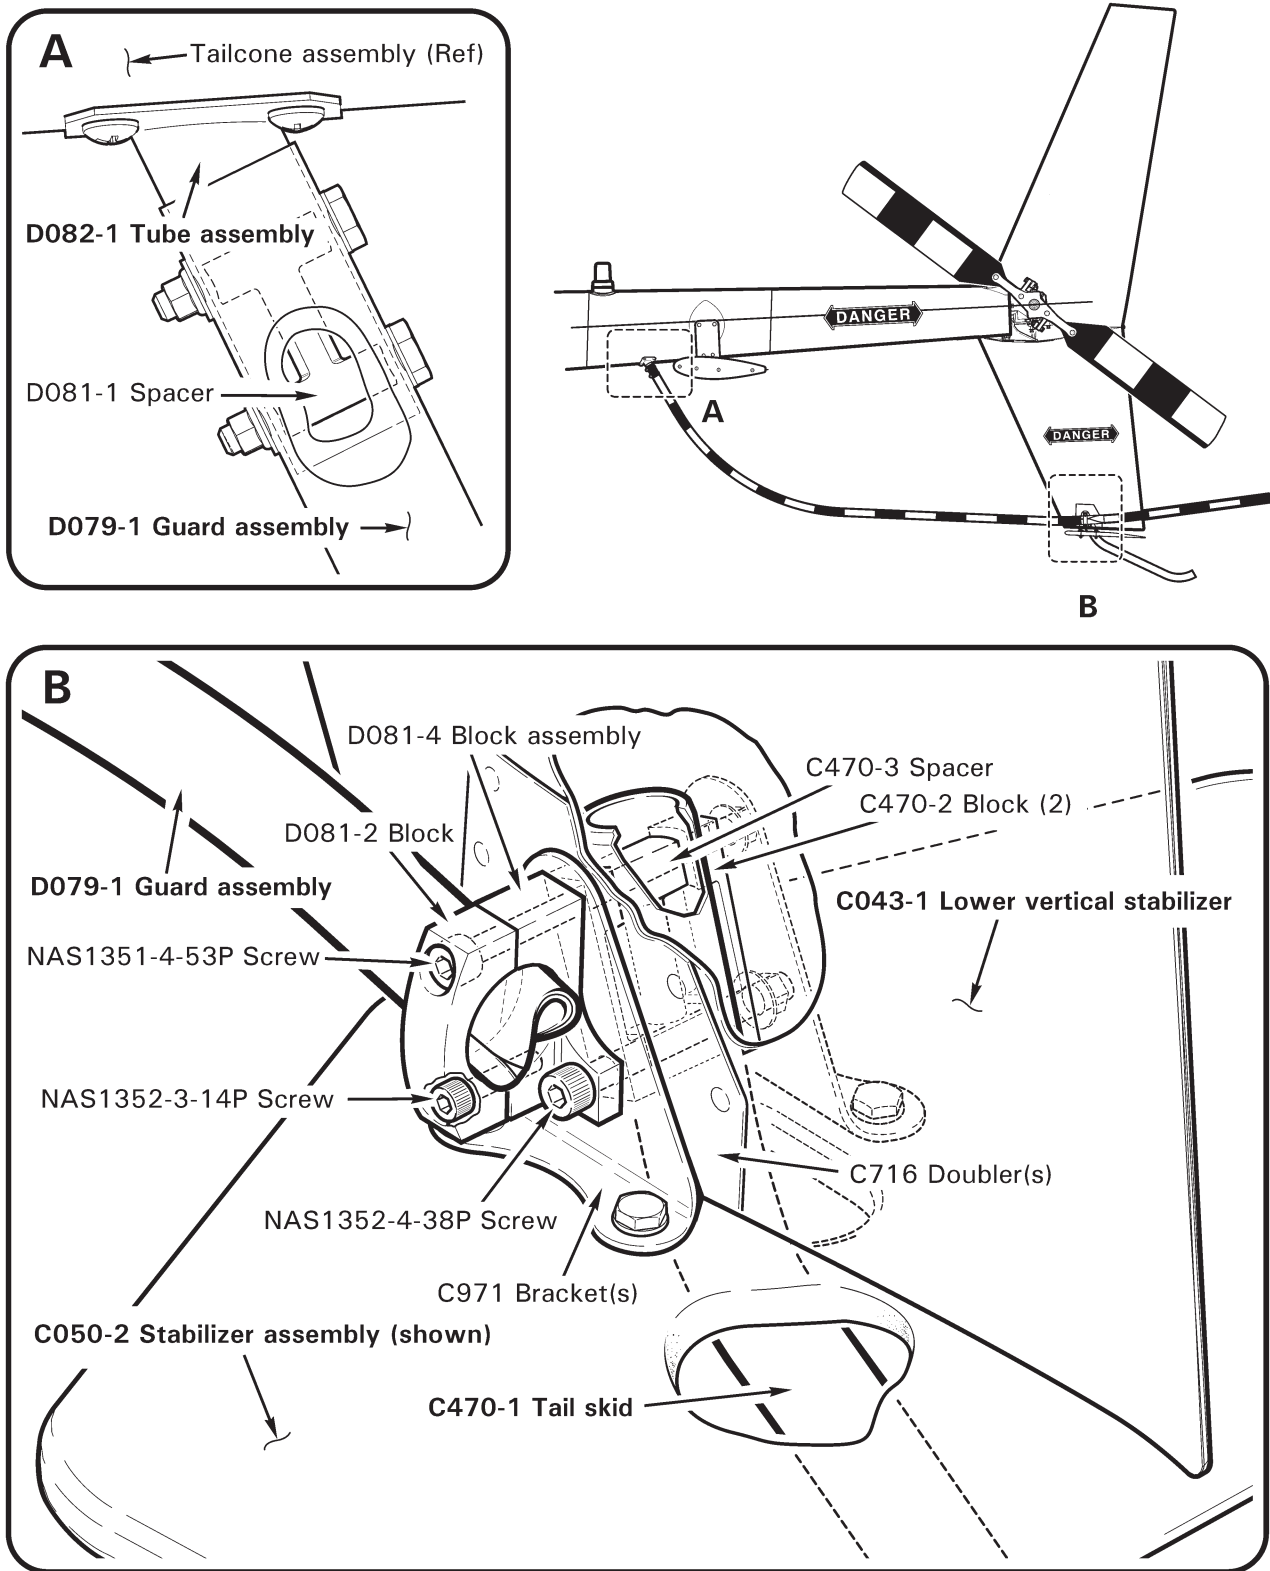

FIGURE 53-8 EMPENNAGE – TAIL ROTOR GUARD
1. Refer to Figure 53-8. Loosen two (forward) fasteners securing D081-2 block to C043-1 lower vertical stabilizer, if not previously accomplished. Insert D079-1 guard assembly aft through blocks.
2. Refer to Figure 53-8. Using plastic scraper, remove sealant around edges where C050-2 or G950-2 horizontal stabilizer assembly brackets attach to C043-1 lower vertical stabilizer assembly doublers. Remove horizontal stabilizer assembly.
1. Refer to Figure 53-8. Position C050-2 or G950-2 horizontal stabilizer assembly on C043-1 lower vertical stabilizer assembly and install tail skid per § 53-90.
1. Refer to Figure 53-8. Support D079-1 guard assembly. Remove hardware securing D081-2 block to C043-1 lower vertical stabilizer assembly and remove block.
1. Refer to Figure 53-8. As required, install C470-3 spacer inside C470-1 tail skid wet with epoxy primer. Position tail skid inside C043-1 lower vertical stabilizer, position D081-4 block assembly and install hardware securing block assembly to stabilizer but do not torque at this time.